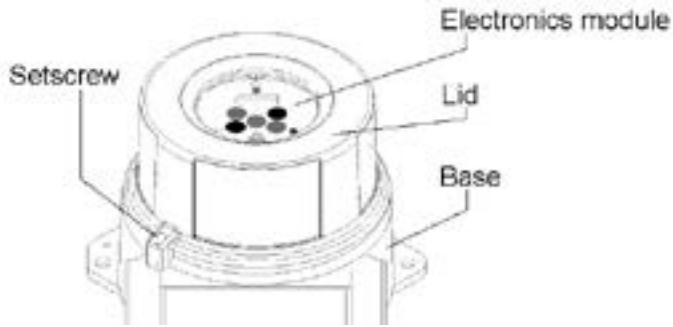

Figure 11. FS20X enclosure
1. Loosen the enclosure's setscrew (see Figure 11)